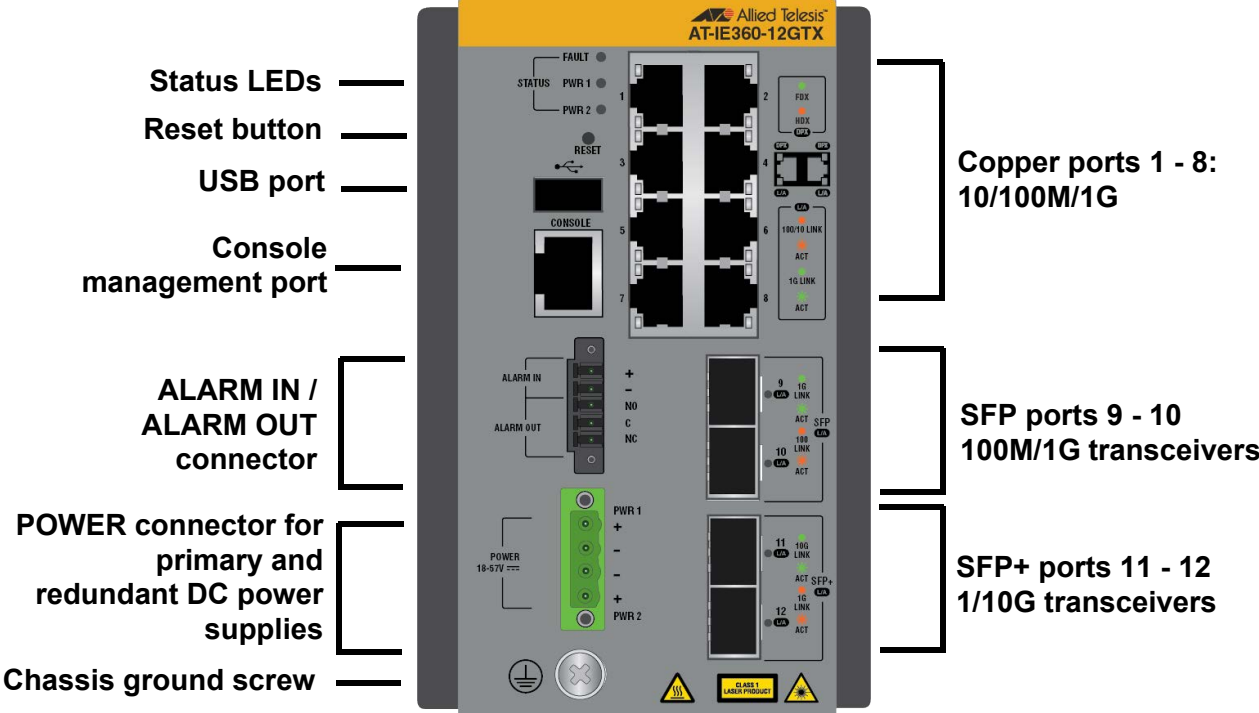

Figure 2. Front Panel of the IE360-12GTX Switch
**IE360-12GTX Switch** Figure 2 illustrates the front panel of the IE360-12GTX Switch.